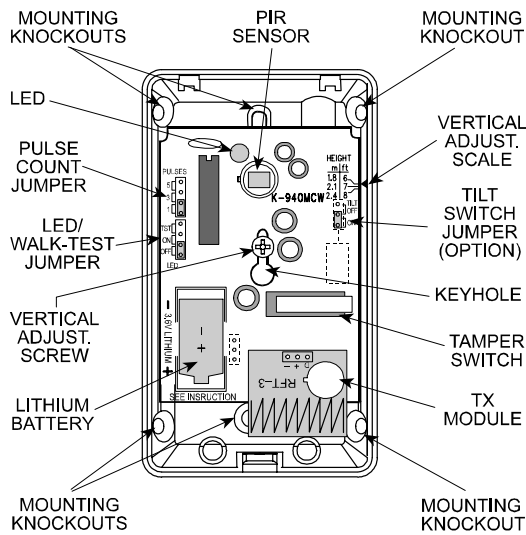

Figure 3. Components Layout
#### 3.1 Battery Insertion (see Figure 3)
**Note:** For wall surface mounting, use the two elongated knockouts at the middle of the base. For corner mounting, use two diagonally opposite knockouts at the angled sides of the base (see Figure 3).